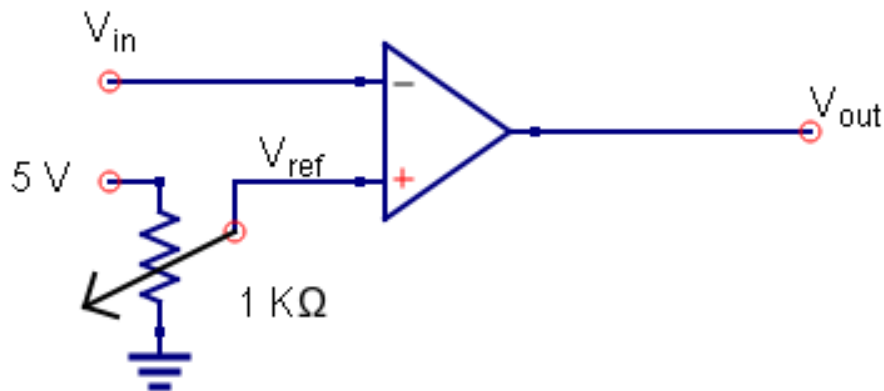

Figure 6: The simple op-amp comparator circuit. The reference voltage at the non-inverting input is controlled by a potentiometer
- Build the op-amp comparator circuit shown in Figure 6